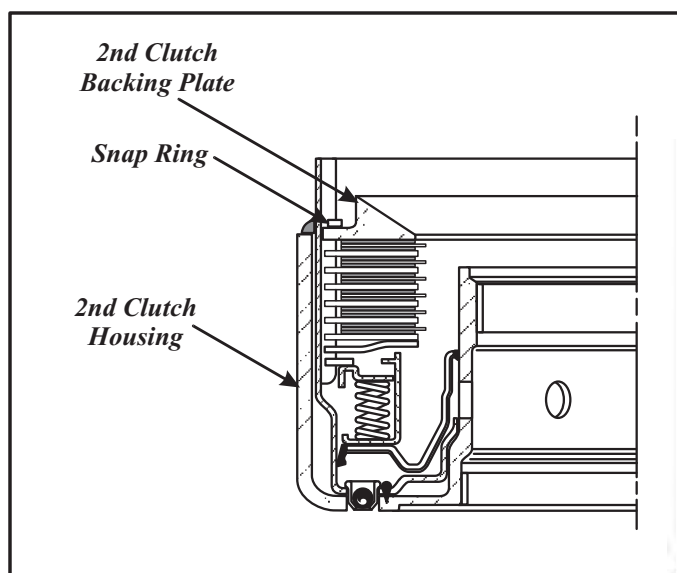

Figure 130
12. Install 2nd clutch backing plate with smooth side facing the last friction (See Figure 130).